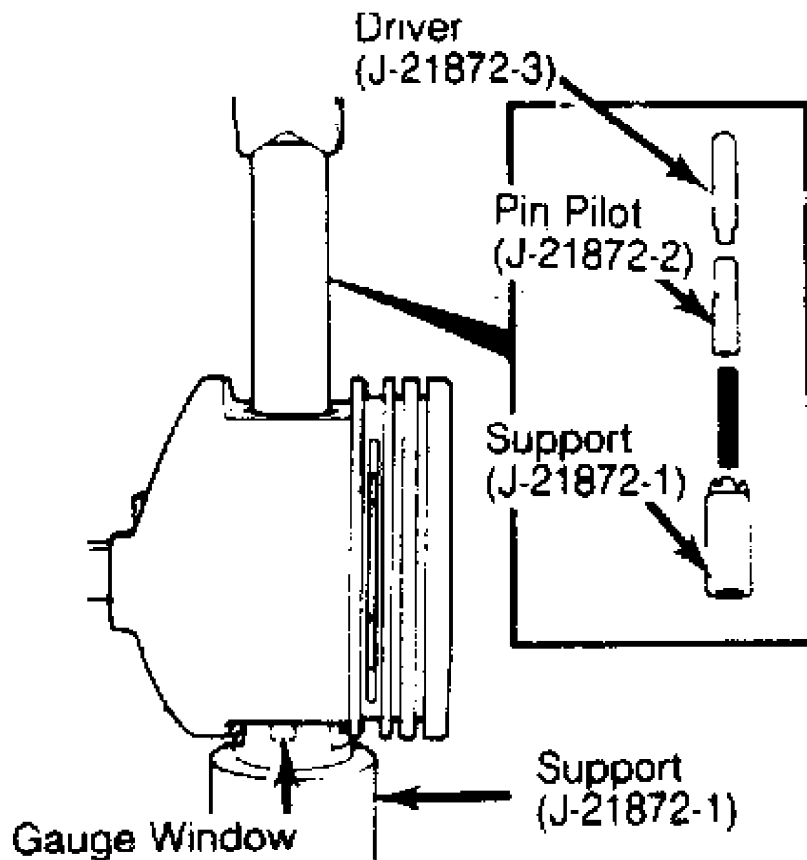

Fig. 7: Removing & Installing Piston Pin
1) Note locations of arrow on piston crown and oil squirt hole in connecting rod. Position piston and rod assembly on support. See Fig. 7. Press piston pin from piston. Discard pin. Piston pin CANNOT be reused after removal. Inspect piston pin bore in connecting rod for nicks or burrs and remove as necessary.